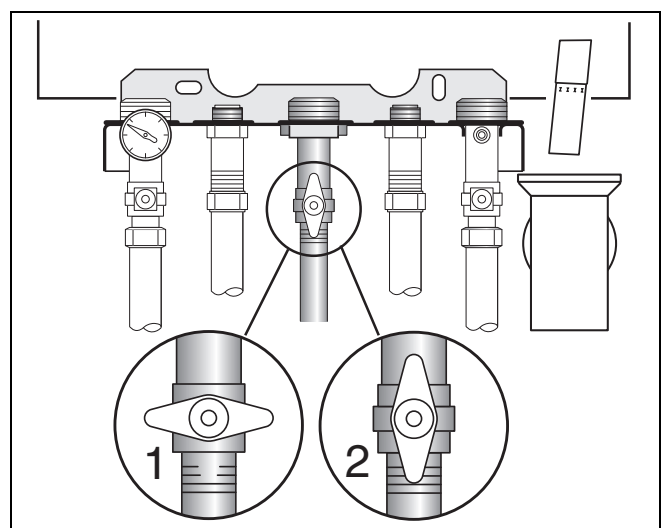

fig. 44 Gas valve
- Close the gas shutoff valve (→ fig. 44, item 1).
- Shut the gas shutoff valve underneath the boiler (→ fig. 44, item 1).
- Open the gas shutoff valve (→ fig. 44, item 2).
- Shut the gas shutoff valve (→ fig. 44, item 1).